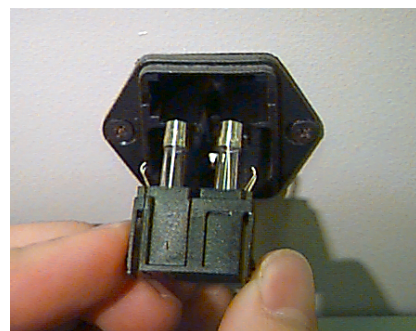

Figure 4-29
3. When the cover is unclipped, pull on the cover to remove the fuse holder (see Figure 4-29).